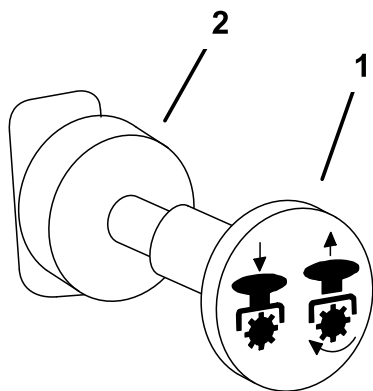

Figure 15
1. Disengage the PTO, move the motion control levers to the neutral locked position and set the parking brake (Figure 15).
4. Pull out on the power take off (PTO) switch to engage it (Figure 15).
To disengage, push the PTO switch to the **off** position (Figure 15).